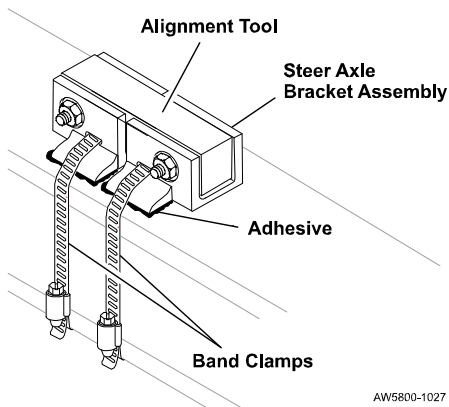

Figure 8. Placing Brackets on the Steer Axle
4. Place a band clamp (p/n: 139-0011-000) through the slot in the bottom of each bracket and wrap the band clamp around steer axle. See Figure 8.